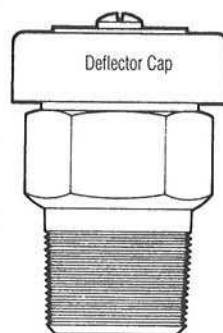

Fig. 6 Part No. 2050CS Excess Pressure Relief Valve
5. EXCESS PRESSURE RELIEF VALVE, PART NO. 2050CS. (See Fig. 6) This sterilizer is equipped with a new type of excess pressure relief valve. It is designed for longer, maintenance-free service; however, we do recommend that the valve be replaced every three years in normal service. The valve is designed to